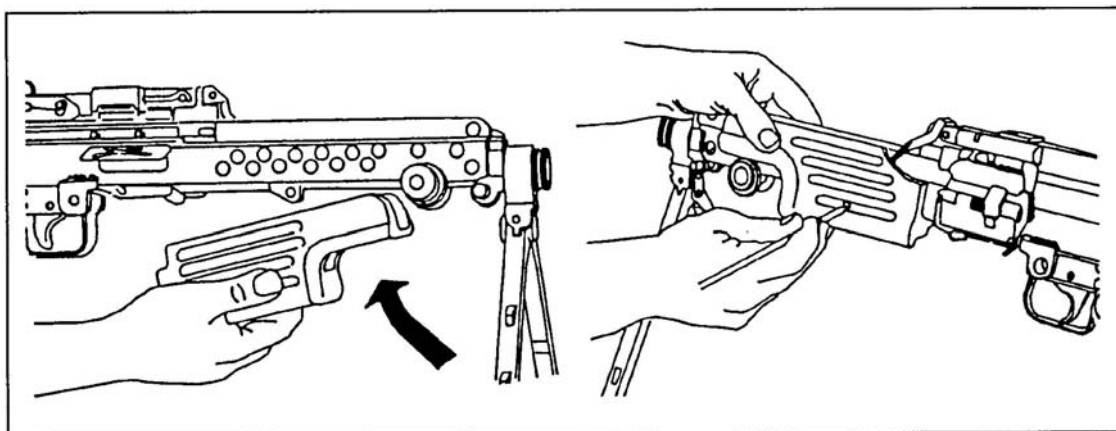

Figure 23. Replacement of the handguard.
- (1) Stow the cleaning equipment in the handguard.
- (2) Place the handguard onto the receiver and slide it backward until it stops.
- (3) Using a cleaning rod section, push the handguard retaining pin to the right. This locks the handguard into position (Figure 23).